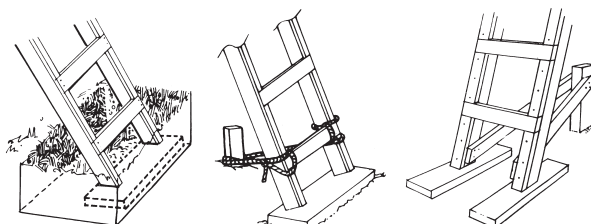

Figure 20-7: Typical Arrangements of a Mud Sill
- Set up the ladder on a firm, level surface. If its base is to rest on soft, uncompacted, or rough soil, use a mud sill (Figure 20-7).